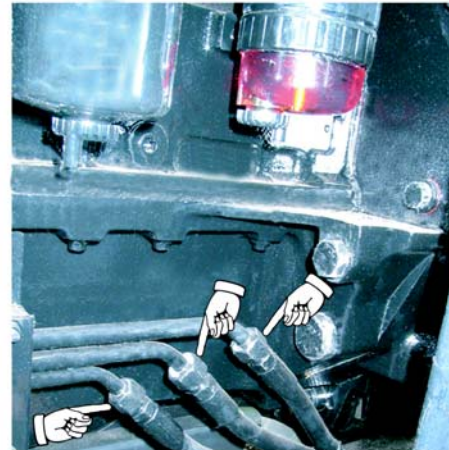

Fig. 4
- the hoses (pressure-return and LS) on the rigid tubes (Fig. 4) of the suspended front axle (if fitted).